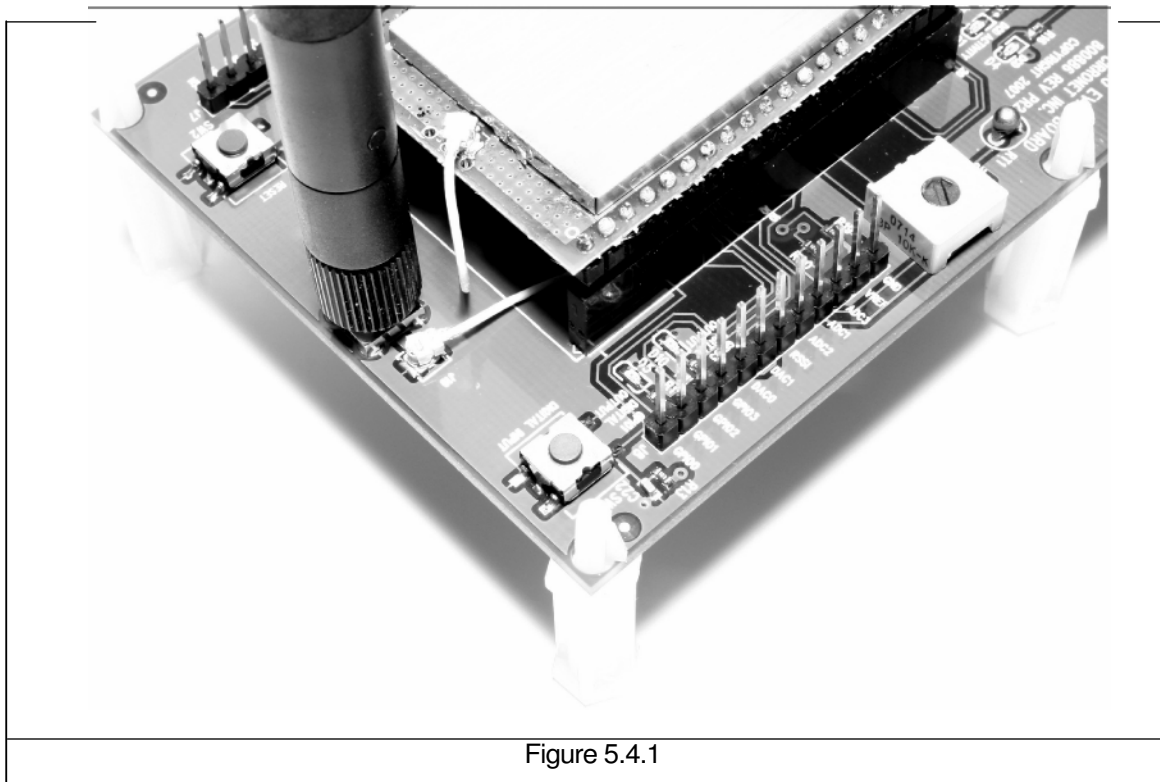
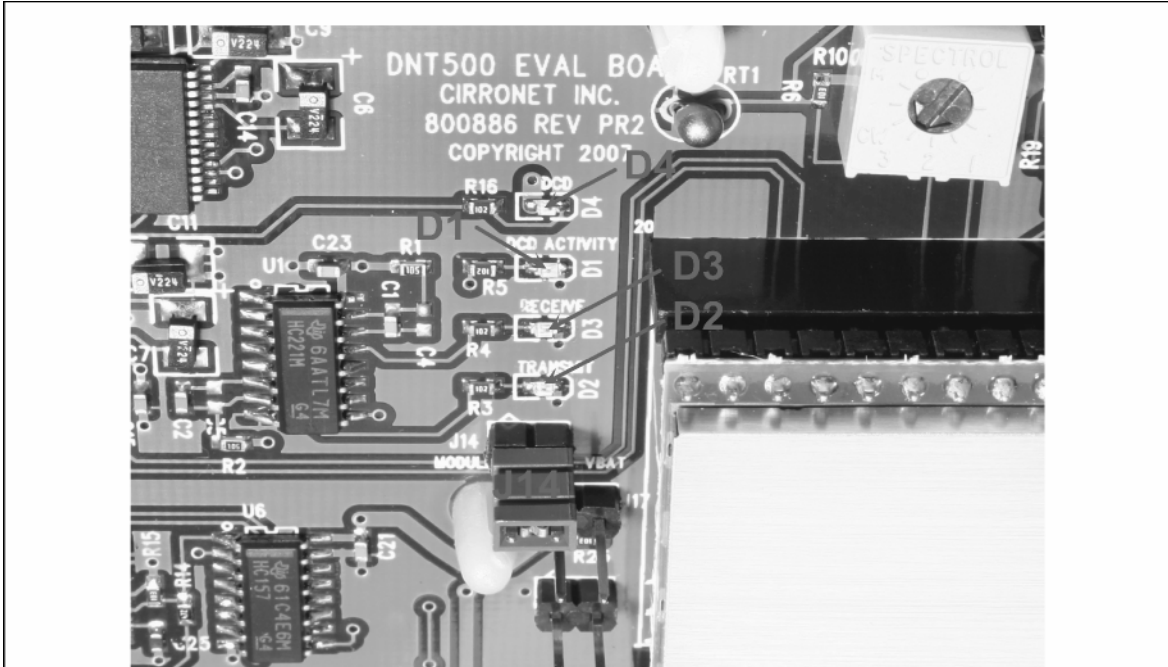

Figure 5.4.1
Figure 5.4.2
Observe ESD precautions when handling the kit circuit boards. Referring to Figure 5.4.1, confirm each DNT900P is correctly plugged into an interface board, with the radio oriented so that its U.FL connector is next to the U.FL connector on the interface board. Check each radio's alignment in the socket on the interface board. No pins should be hanging out over the ends of the connector. Next, install the U.FL jumper cables between the U.FL connectors on the radios and the interface boards. Then install the dipole antennas. As shown in Figure 5.4.2, confirm there is a jumper on pins J14. The interface boards can now be powered by the 9 V wall plug transformer power supplies (the interface boards can also be run for a short time from the 9 V batteries for range testing, etc.).
1. Confirm that each DNT900P is installed correctly in an interface board, and that the U.FL jumpers between the DNT900P radios and the interface boards are installed. Also confirm that a dipole antenna is installed on each interface board, and that J14 has a jumper block installed on each interface board. See Figures 5.4.1, 5.4.2 and 5.4.3 above.